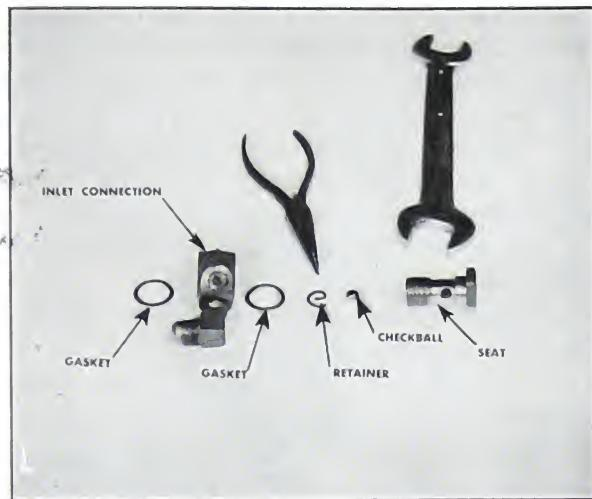

Fig. 5-279. Exploded view of check ball assembly
4. Assemble the check ball to the seat and secure with snap ring. Fig. 5-279.